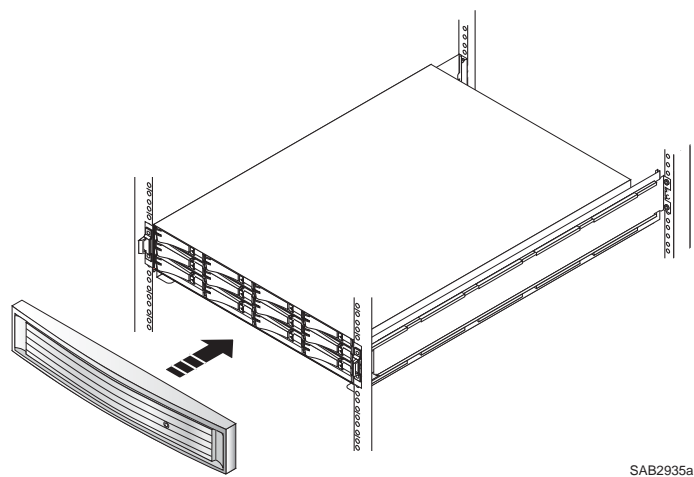

FIGURE 21. Installing and Locking the Front Bezel
- a. Align the bezel with the storage system (Figure 21).
- b. Gently push the bezel into place on the cabinet until it latches (Figure 21).
- c. Secure the bezel by turning the key in the lock (Figure 21).